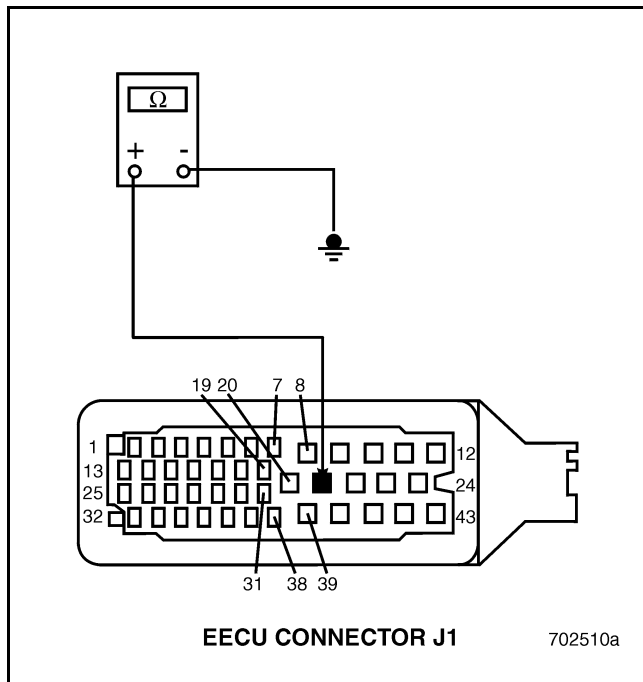

Figure 418
4. Check for continuity between EECU harness connector J1, pin 21 and a good ground (see Figure 418).